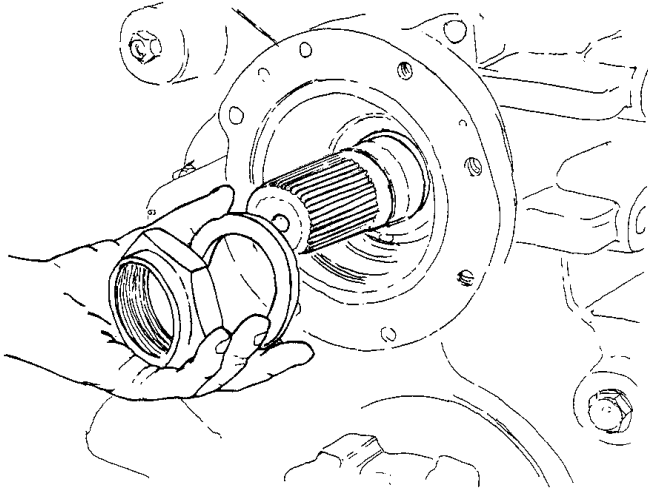

Figure 4 Remove Hex Lock Nut and Washer
4. Remove hex lock nut with special hex socket tool (Figure 22) and washer from the range gear shaft (Figure 4).